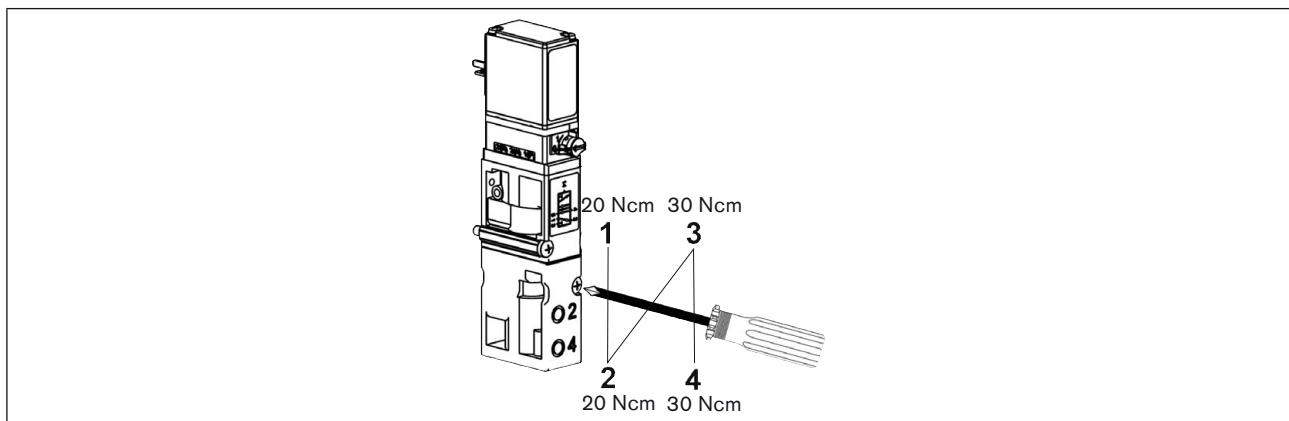

Figure 32: Tightening the screws
- Connect valve, with the cleanly inserted flange seals / O-rings, to the valve slot and tighten the screws according to the following assembly diagram (see *Figure 32: Tightening the screws*).